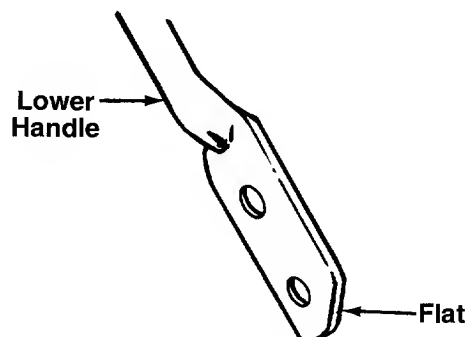

FIGURE 8.
4. Turn the lower handle around so the flat on the bottom is facing upward as shown in figure 8. Reassemble, placing the bottom holes in the handle over the weld pins in the handle mounting bracket.